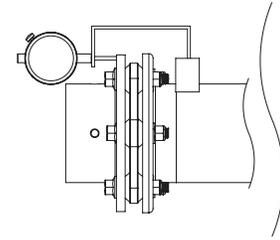

Figure 6 - Check angular alignment using dial indicator method.
- 8.4. Either method shown (Figures 6 and 7) can be used to check angular alignment.